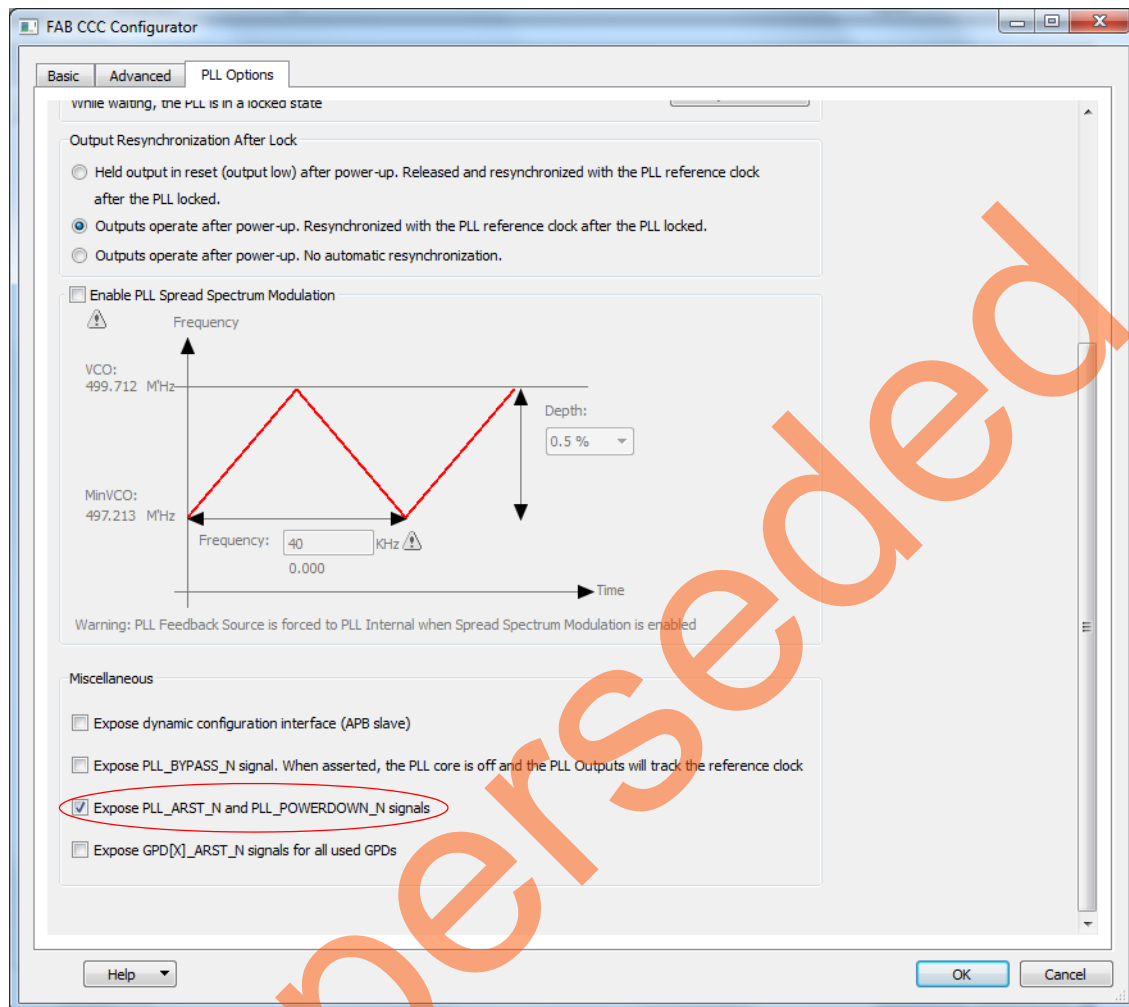

Figure 11 • Configuring PLL Power-down Signal
17. Click **PLL Options** tab in the **FAB CCC Configurator** window and check **Expose PLL_ARST_N** and **PLL_POWERDOWN_N** signals as shown in Figure 11.